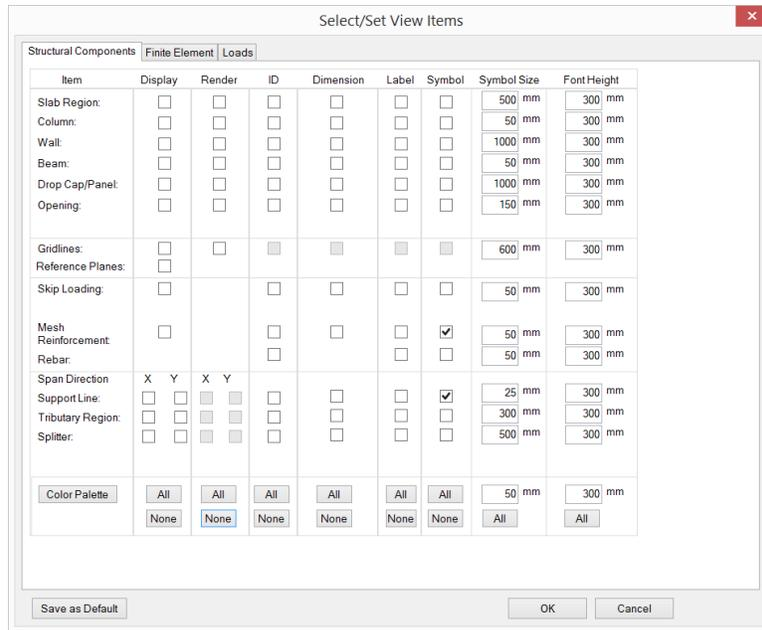

Figure 6.4-6 - Select/ Set View Items Dialog Box
- This will open the **Select/Set View Items** dialog box. By default, the **Structural Components** tab will be open. Turn on the display of **Slab Region**, **Column** and **Wall** as shown in **Figure 6.4-6** and click on “**OK.**” This will display all structural objects in the screen.